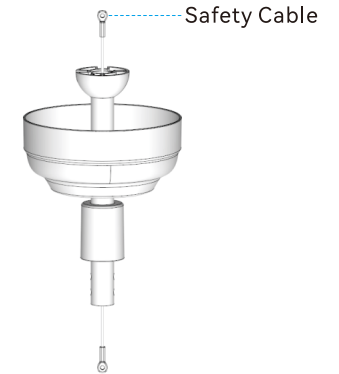

Fig. 4.1
4.1 Assemble the downrod as shown in Fig. 4.1. Insert the downrod through the canopy and wiring cover.